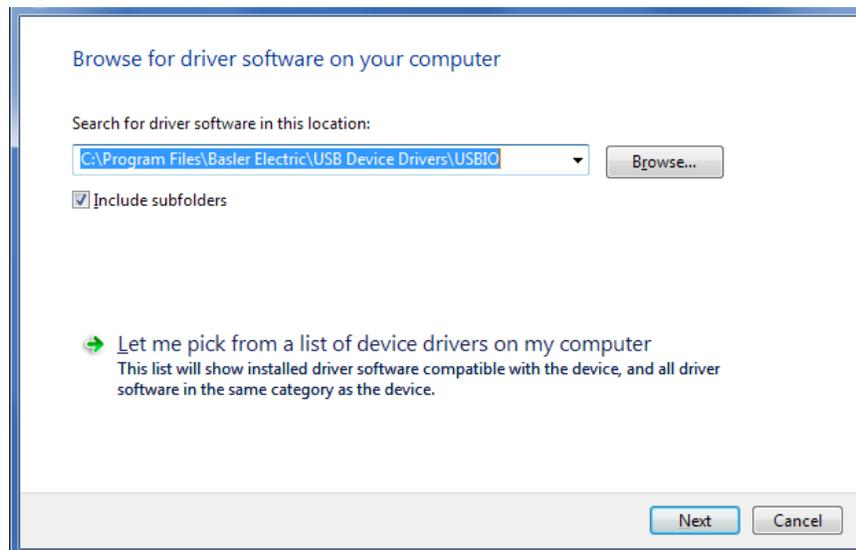

Figure 52-5. Update Driver Software - BE1-700
Step 5. Click Browse and navigate to C:\Program Files\Basler Electric\USB Connect Driver. Click Next. See Figure 52-5.